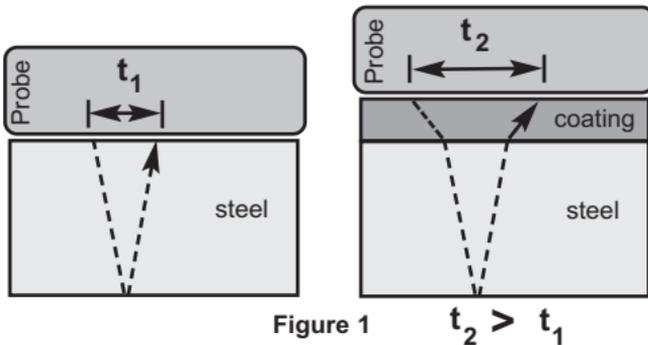

Figure 1
**PosiTector UTG C** and **UTG M** (in single-echo  mode) probes determine thickness by measuring  $t_1$  (uncoated) or  $t_2$  (coated), dividing it by two and then multiplying by the velocity of sound for that material (steel). See Figure 1.